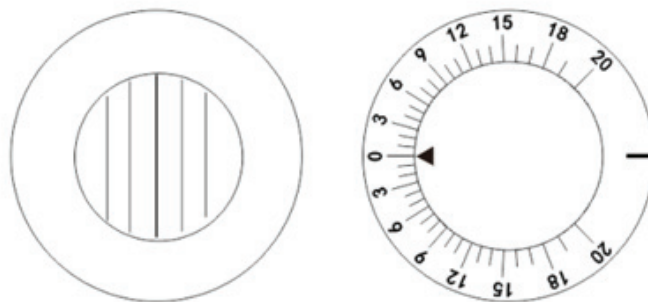
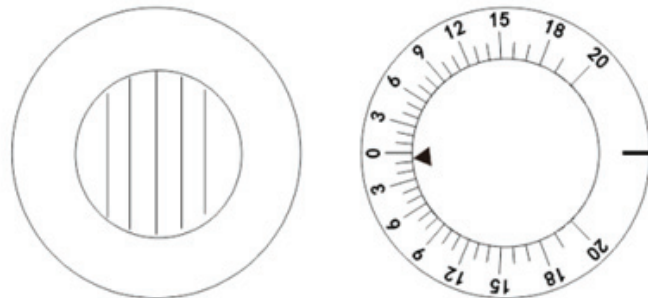

Fig.48
Fig.49
b. Then measure vertical phoria. As shown in Fig.48, turn auxiliary lens knob ⑫ and set MR_{RV} for the right eye. Turn rotation prism lens ⑬ to set the left eye at horizontal position. Now Testee can see red horizontal line with the right eye, and the light spot with the left eye. Then using same procedure of a, ask Testee when he can see red line and light spot meet while turning prism lens rotation knob ⑪. When it is shown as Fig.49, Testee reports they meet, it is 0.5, below 0, indicating left eye is 0.5 Δ D, called 0.5 Δ upward heterophoria.